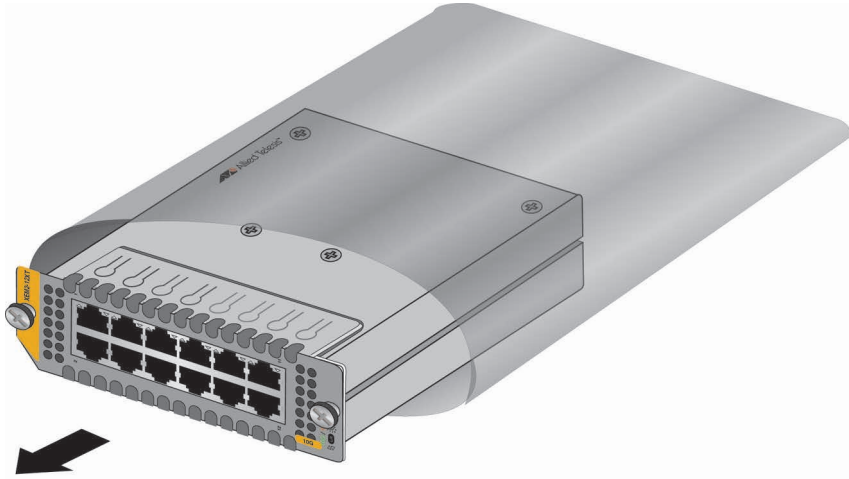

Figure 43. Removing the XEM2 Line Card from the Anti-static Bag
- Carefully remove the line card from its shipping container and anti-static bag. Refer to Figure 43.